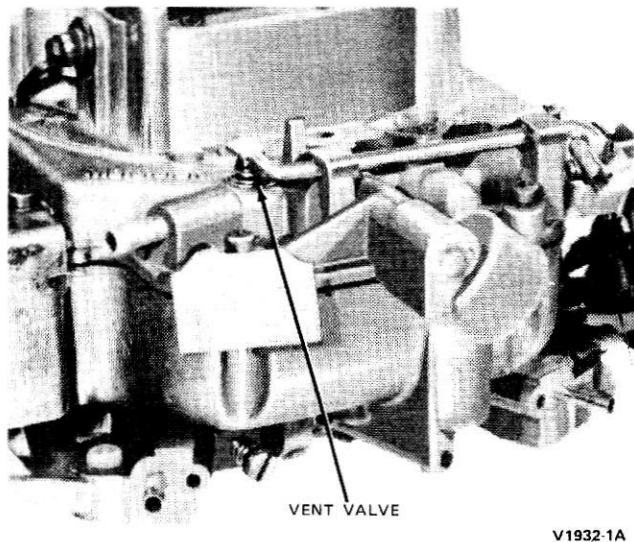

FIG. 30 Mechanical Fuel Bowl Vent Valve—Removal and Installation
13. Remove the hex-head screw that attaches the mechanical fuel bowl vent valve operating rod retainer. Remove the retainer and operating rod (see Fig. 30).